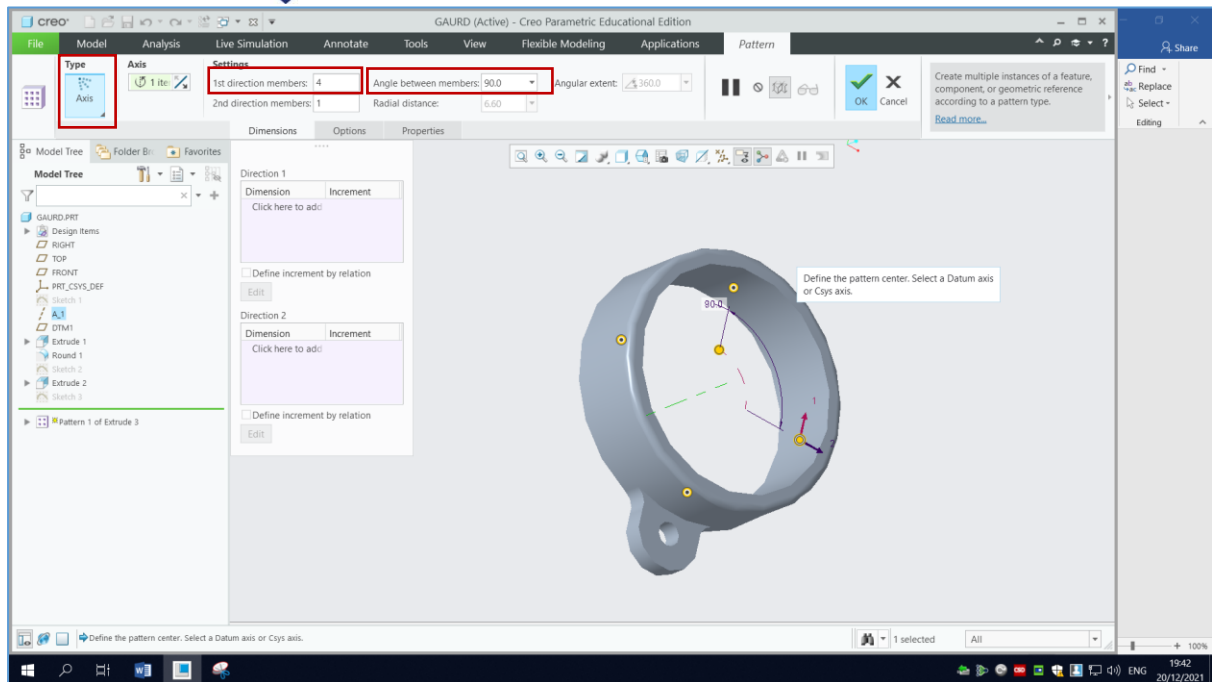

fig1.4
- Now use the **Pattern** on portion 3 using Axis pattern with **1st direction members** being **4** and **angle- 90** as shown in fig 1.4